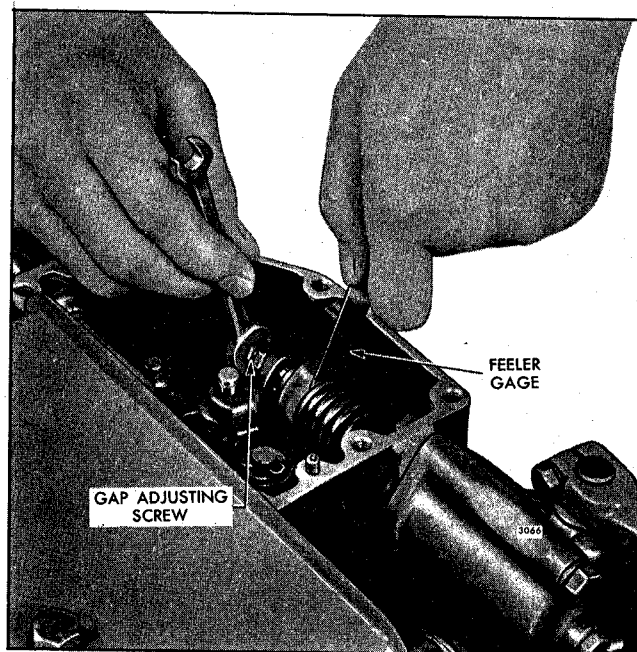

Fig. 16 - Adjusting Governor Gap
4. Insert a .006" feeler gage between the spring plunger and the plunger guide as shown in Fig. 16. If required, loosen the lock nut and turn the adjusting screw in or out until a slight drag is noted on the feeler gage.